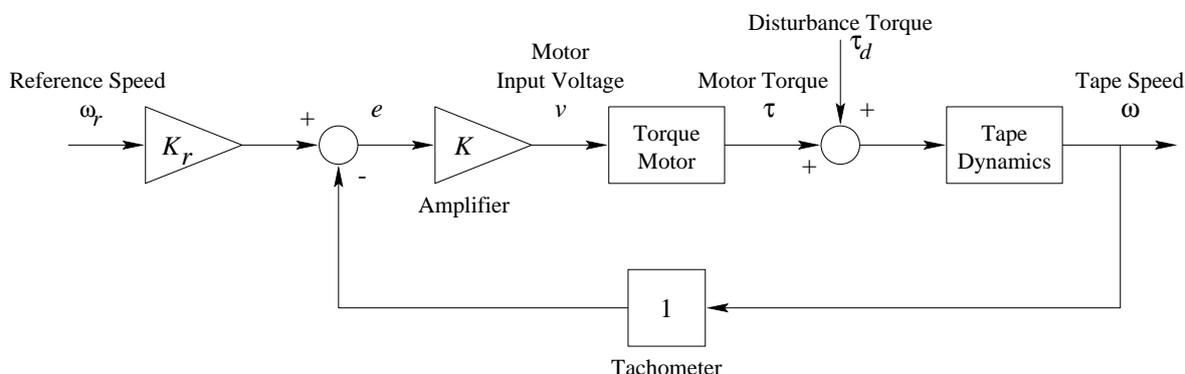

Figure 3.1: Closed-Loop System with Unity Feedback.
- (a) Obtain an all-integrator block diagram for the system in figure 3.1. Show the intermediate variables ( $\tau$ ,  $v$  etc.). Note that the motor torque is the convolution of a step input with the motor's transfer function.
2. For the system in Figure 3.1, derive the relationship between the steady-state error ( $e_{ss} = \omega_r - \omega$ ) and the natural frequency,  $\omega_n$ . Consider the error as a function of both  $\omega_r$  and  $\tau_d$ , when both are step inputs. Since the system is linear, superposition allows the two components of  $e_{ss}$  to be calculated separately and then summed.